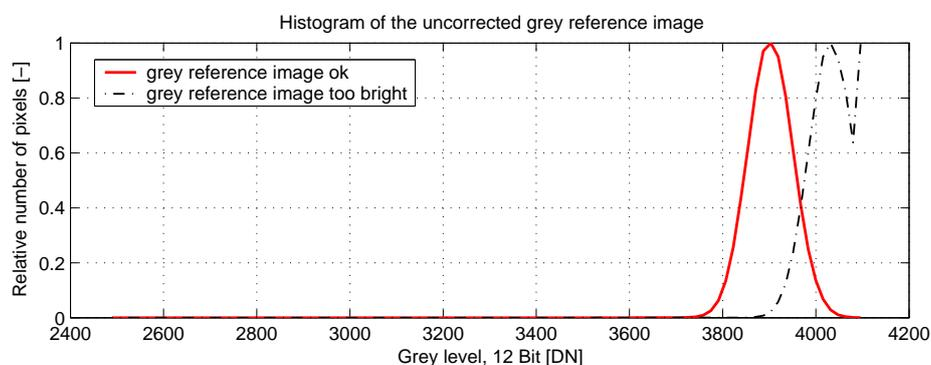

Figure 5.15: Proper grey reference image for gain correction
- When looking at the histogram of the grey reference image, ideally there are no grey levels at full scale (1023 DN @ 10 bit). All pixels that are saturated white will not be properly corrected (see Fig. 5.15).